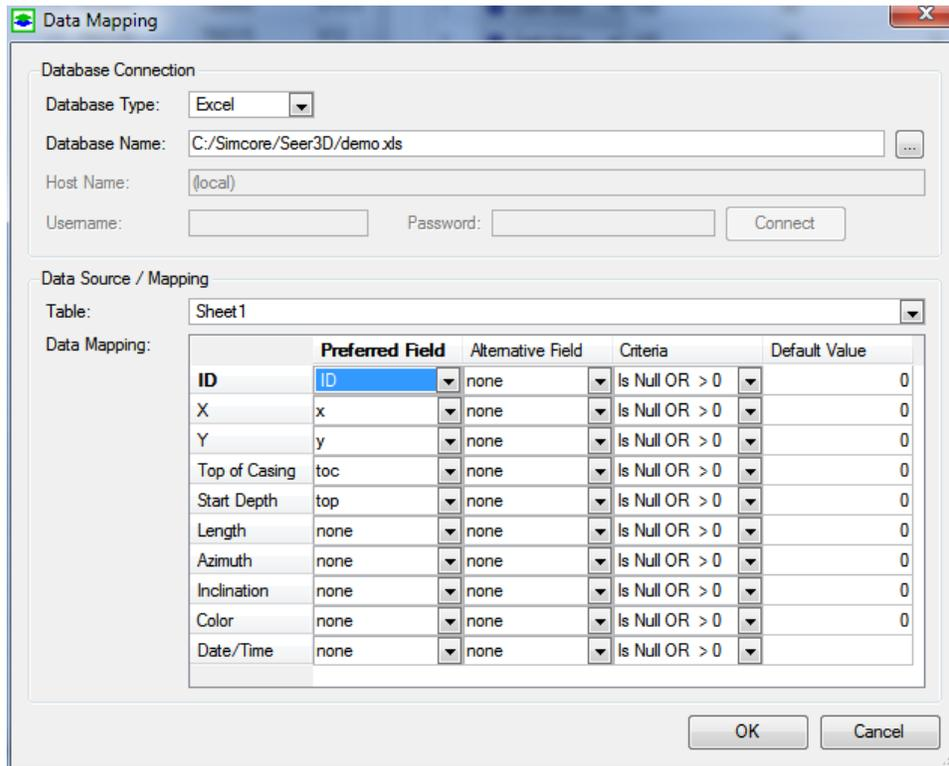

Figure 2.18. The Data Mapping dialog box for well data
- *Import from Database*: Click this button to open a *Data Mapping* dialog box (Figure 2.18) for importing data from a supported database type. The available options are: